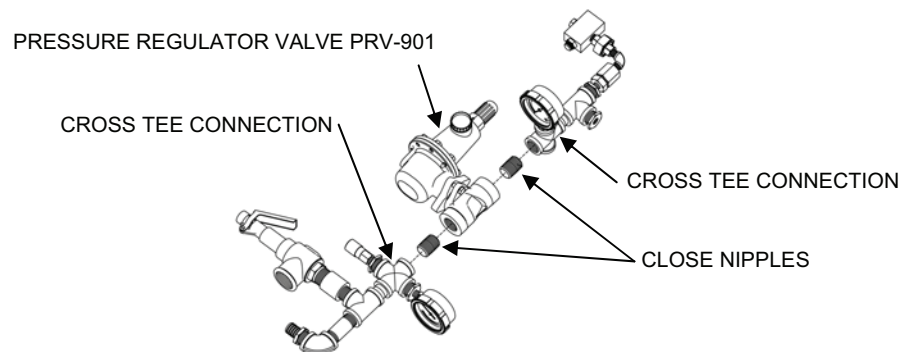

Figure 17. Pressure Regulator Valve PRV-901.
3. Disconnect the cross tee pipes from the close nipples at both ends of Pressure Regulating Valve PRV-901 and remove the valve from the Air System Section 1 assembly (see Figure 17):
See Figure 17 for correct positioning of Pressure Regulating Valve PRV-901 and associated piping. Care must be taken not over-tighten. Loosening the connection once tightened could cause the connection to leak.
- a. Thread the Pressure Regulating Valve and close nipple to the cross pipe that contains Pressure Gauge PI-901 (see Figure 17 for the correct positioning of the valve).
- b. Thread the cross pipe that contains Pressure Gauge PI-902 into the other close nipple on the pressure-regulating valve (see Figure 17 for the correct positioning of the cross tee with Pressure Gauge PI-902).